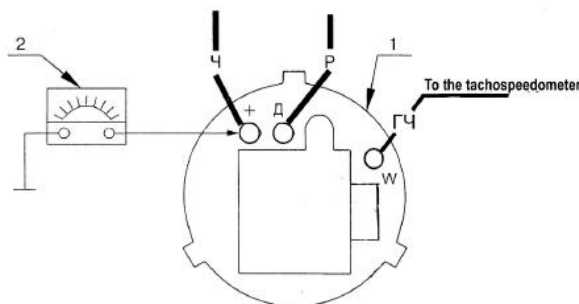

Fig. 1. Checking the controllable voltage value: 1 – alternator G1; 2 – voltage indicator.
- Using a voltage indicator, check the controllable voltage of the alternator (Fig. 1), which shall be 14.2 – 15.2 V;
- Check the value of the controllable voltage (Fig. 1), and, if it is below the allowable value, replace the IVA;